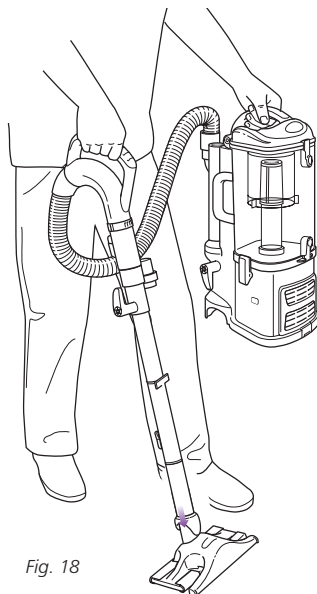

Fig. 18
- 2 Attach *Dust-Away*™ hard floor attachment to the end of the extension wand. (Fig. 18)